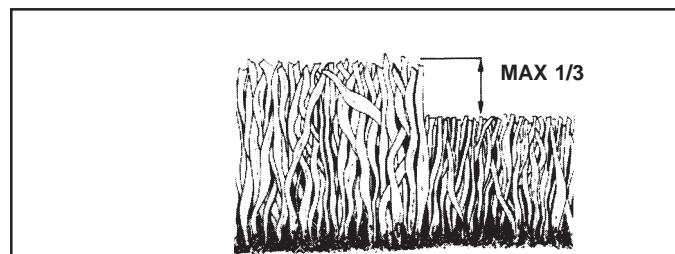

FIG. 8
- For best results, adjust the lawn mower cutting height so that the lawn mower cuts off only the top one-third of the grass blades (See Fig. 8). If the lawn is overgrown it will be necessary to raise the height of cut to reduce pushing effort and to keep from overloading the engine and leaving clumps of mulched grass. For extremely heavy mulching, reduce your width of cut by overlapping previously cut path and mow slowly.